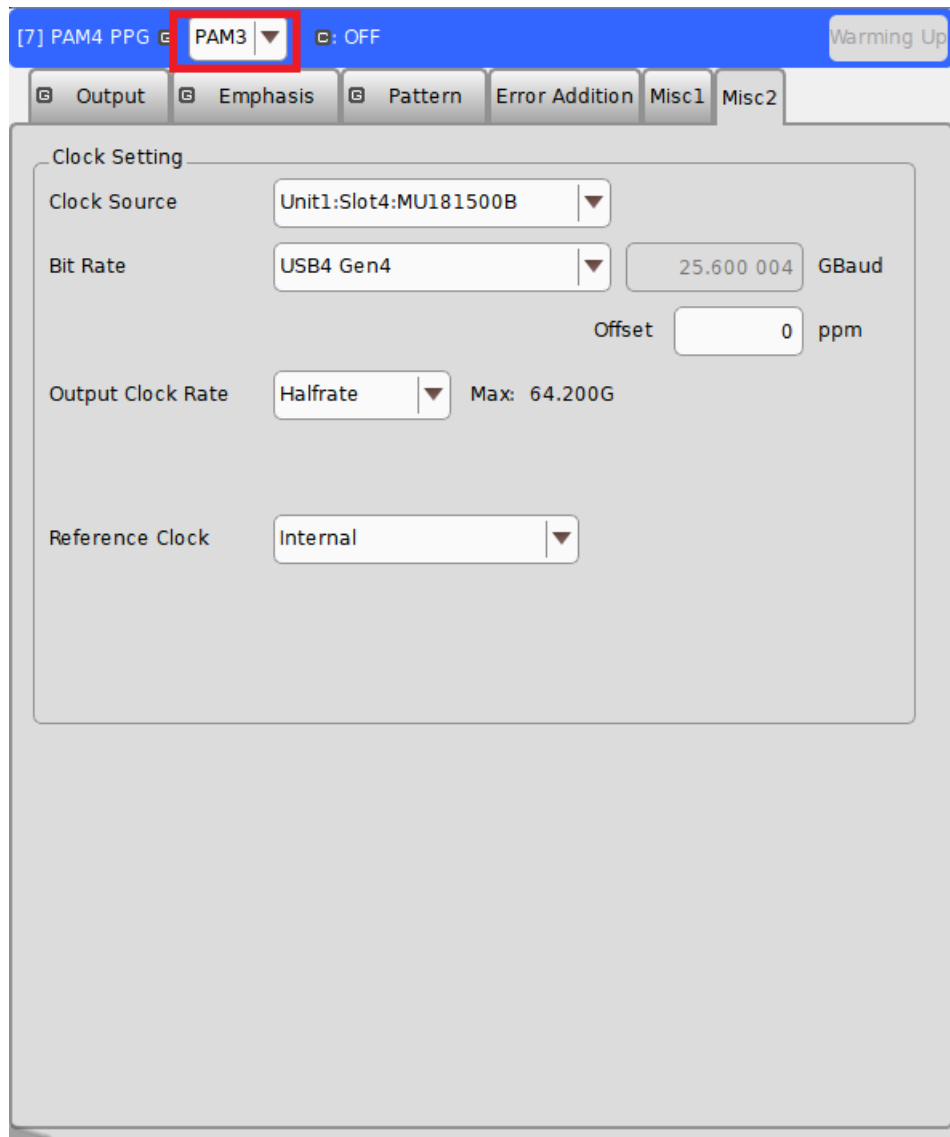

FIGURE 49. MODULATION TYPE “PAM3” SETTING
- ii. Switch modulation type to “PAM3”. See Figure 49.